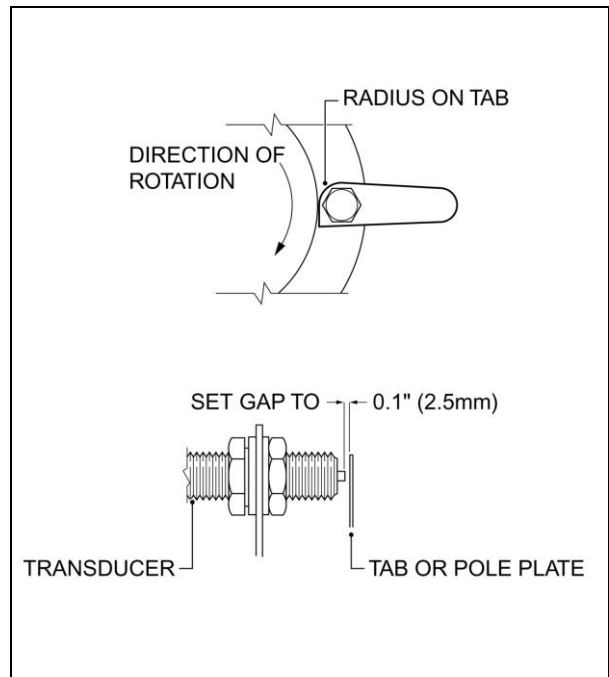

Fig. 4 – Adjustment of Transducer
Fit one sensing tab under the head of each clamp ring securing bolt in place of the existing washer. Ensure that the radius at the corner of the tab is positioned as shown to allow the tab to move back if it should touch the transducer whilst the atomiser is rotating (see Fig. 4).
3. Replace the atomiser in its mounting clamp if removed for steps (1) and (2). Do not tighten the spindle nut at this stage.
4. Fit the RPM transducer into the mounting bracket. Ensure that the two plastic bushes (EX356) are in position on either side of the bracket. For an AU4000 installation with the EX198 mounting angle, the smaller end of each bush should fit into the hole in the bracket. For all other brackets, one bush should fit into the bracket and the other should be fitted to act as a washer with the smaller end away from the bracket. See Fig. 4.
6. Adjust the two nuts on the transducer body until the gap between the pip on the end of the transducer and tabs or 'finger' plate is 2.5 mm (0.1") as shown in Fig. 4. Lock the transducer firmly in position.
7. Ensure that the gap set in (6) is the same for all tabs or 'fingers' of the plate. If necessary, bend the tabs or 'fingers' slightly to adjust the gap.